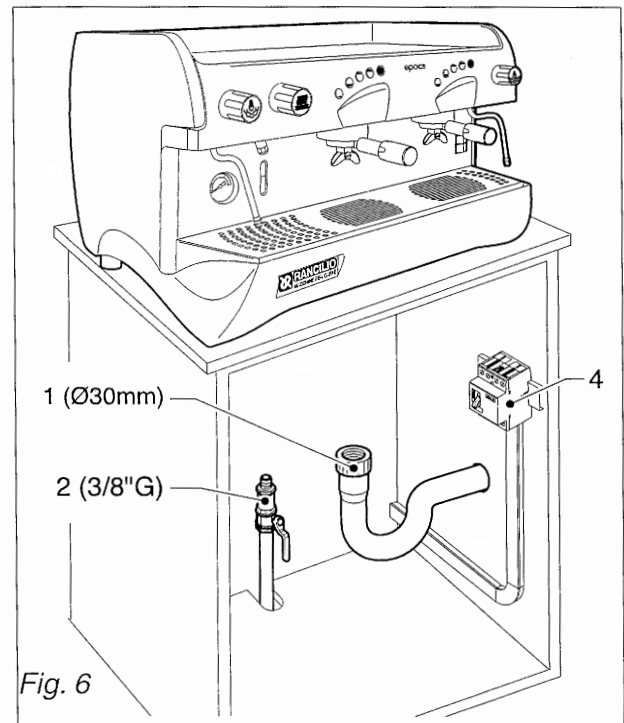

Fig. 6
6.1.1 Water supply (Fig. 6)
In both cases it is necessary to provide an automatic differential switch (Fig.6) at the start of the power cable, complete with the magnetic release elements in accordance with the ID plate details(Fig.1). The contacts must have an opening of at least 3mm, and a dispersed current protection of 30 mA.
Turn on the water supply tap 2 (Fig. 6).